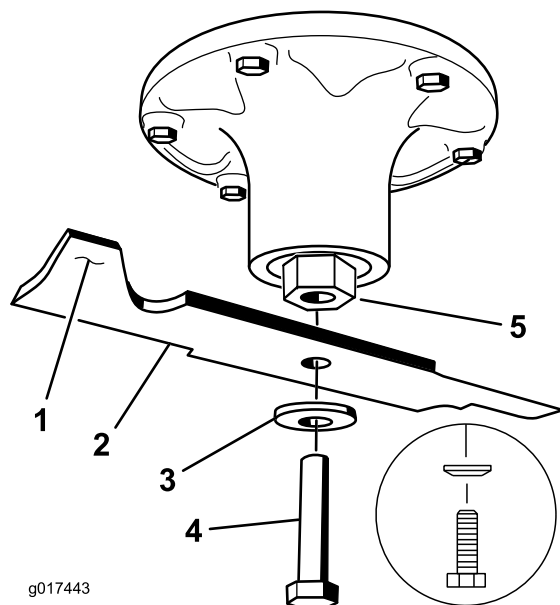

Figure 115
2. Remove the blade bolt, curved washer, and blade from the spindle shaft (Figure 115).
1. Install the blade onto the spindle shaft (Figure 115).
2. Install the curved washer and blade bolt (Figure 115).